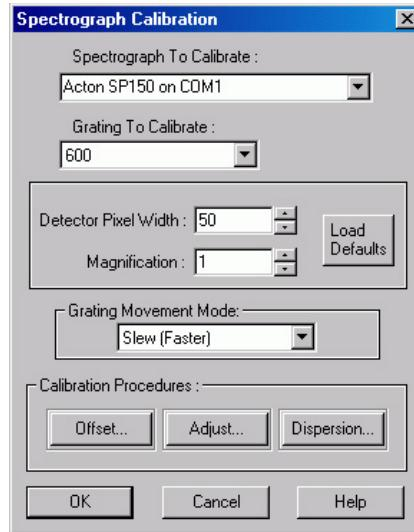

Figure 65. Spectrograph Calibration dialog
3. Select **Calibrate** on the Spectrograph menu. This will open the Spectrograph Calibration dialog (Figure 65).